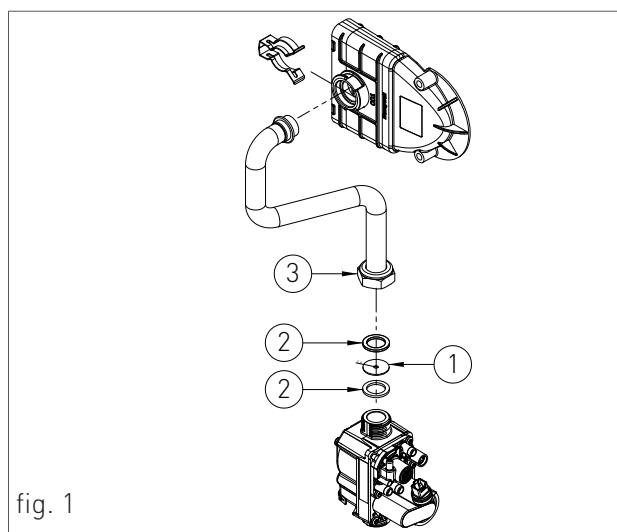

fig. 1
- › Insert the diaphragm '1' (for LPG - Ø 4 mm diaphragm - code 15-01728) and gaskets '2' and re-tighten the coupling '3' (see fig.1).
- › Remove the diaphragm '1' and re-tighten the coupling '3' (see fig.1).
- › Remount the components following the demounting operations in reverse (see fig.1);